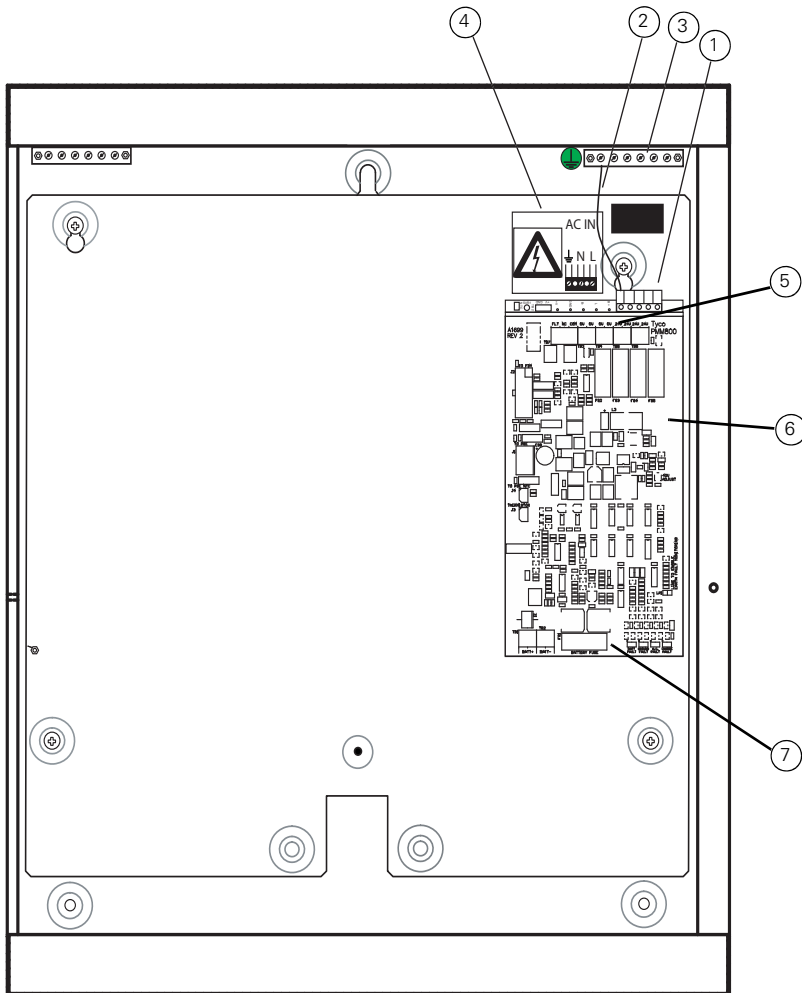

Fig. 3: Housing Internal View
Note the dangerous voltage warning sticker on the chassis plate. This is item 4 in Fig. 3.
Connect the mains input cable to its connector (item 1 in Fig. 3 on page 6). Fix the mains cable using the clip near the mains input connector.
Connect the protective earth conductor of the mains to an unused terminal of the housing earthing block. This block is item 3 in Fig. 3, marked with an earth symbol. Do not use the terminal occupied by the conductor connected to the power supply module.
System 0 V must not be connected to earth, so take meter readings to check this. As a meter probe point, use one of the “0V” terminals of the connector at the top of the PMM800 (the PMM is item 6 in Fig. 3 on page 6, mounted on top of the PSU).
Remove the battery fuse from the PMM800 board (the fuse is item 7 in Fig. 3).
Identify the positive cable and connect this to one of the "24 V" screw terminals at the top of the PMM800 board (see item 5 in Figure 3). Identify the negative cable and attach this to one of the "0 V" terminals. Repeat for each required 24 V cable pair.
Remove the two lower screws fixing the MPM800 board (the MPM800 board is item 6 in Figure 3).